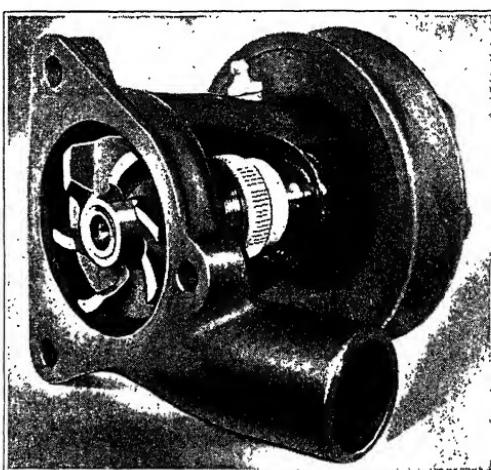

Fig. 13. Six-Vane Water Pump Mounted on Needle Bearing.
**Hudson and Terraplane Water Pump.** Fig. 13 illustrates the 1935 Hudson and Terraplane six-vane centrifugal type pump. The pump shaft is mounted on needle bearings, these being used in order to cut down the amount of power required to drive the pump and to insure against overheating and burning out of the pump-shaft bearing through lack of proper lubrication.